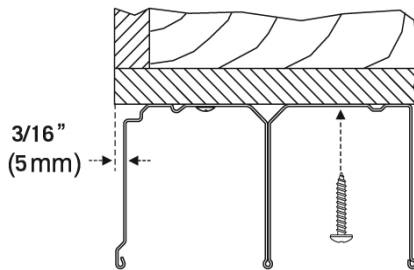

FIGURE 3
Screw top guide channel into the header of your opening, locating the front edge 3/16"(5) back from jamb face as shown. Avoid using excessive force when screwing into header as this could deform the top guide (Figure 3).